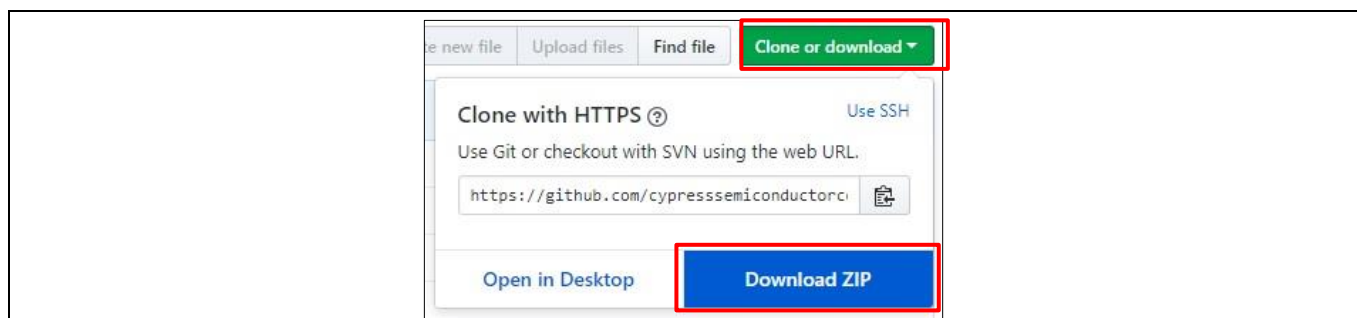

Figure 6 Download CYW20819 Code Examples Repository from GitHub
1. Download the code examples repository as a zip file by going to the CYW20819 Code Examples repository on GitHub, and using the Clone or download option as shown in Figure 6. Unzip the downloaded file to a location on your hard drive. This approach is especially useful if you are not familiar with the Git version control system.